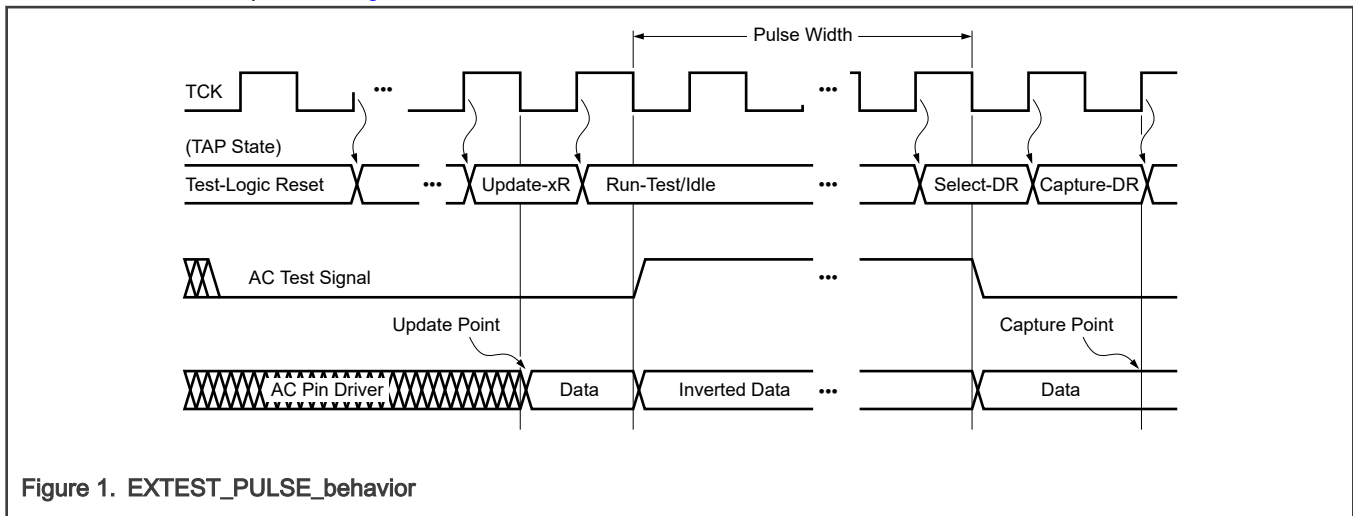

Figure 1. EXTEST\_PULSE\_behavior
and Test-Data Output (TDO) in a manner similar to the IEEE 1149.1 EXTEST instruction. The timing diagram from the official IEEE 1149.6 document is depicted in Figure 1.
- Select AC Behavior for each differential SerDes TX/TX\_B pin pair and enable the driver. This condition then drives the logic value in the BSR on the pin pair onto the pins at the falling edge of Test Clock (TCK) in the UpdateIR or UpdateDR states. When Run-Test/Idle is entered, the differential pin drives the inverted data signal starting at the falling edge of TCK. The differential pin drives transition back to the original, non-inverted state at the falling edge of TCK when Run-Test/Idle state is exited, as shown in Figure 1 on the AC pin driver signals. This event generates a pulse of inverted data on a driver that is as wide as the time spent in the Run-Test/Idle TAP controller state.
- If the Run-Test/Idle TAP controller state is not entered, the output behavior of the SerDes TX pins is not distinguishable from the (DC) EXTEST instruction.
- The SerDes RX/RX\_B pins are equipped with test receivers. The differential SerDes channels have one test receiver per leg. When either the EXTEST\_PULSE or EXTEST\_TRAIN instructions are in effect, it is the responsibility of the test receiver to reconstruct the test waveform driven by the upstream driver when either AC-coupling or DC-coupling is used. It does so by reacting to the edges and not the levels of the input waveform. When (DC) EXTEST is in effect, the test receiver behaves as a level detector.